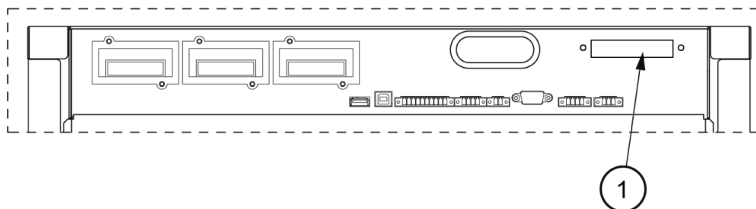

Figure 28. Communication interfaces
These inputs are located behind the UPS door, in the top section of the UPS. See Figure 28 for the connector locations.
- A 12-pin terminal block for external parallel control signals is accessible on the right side of the communication interface, on the top section of the UPS (see Figure 28).